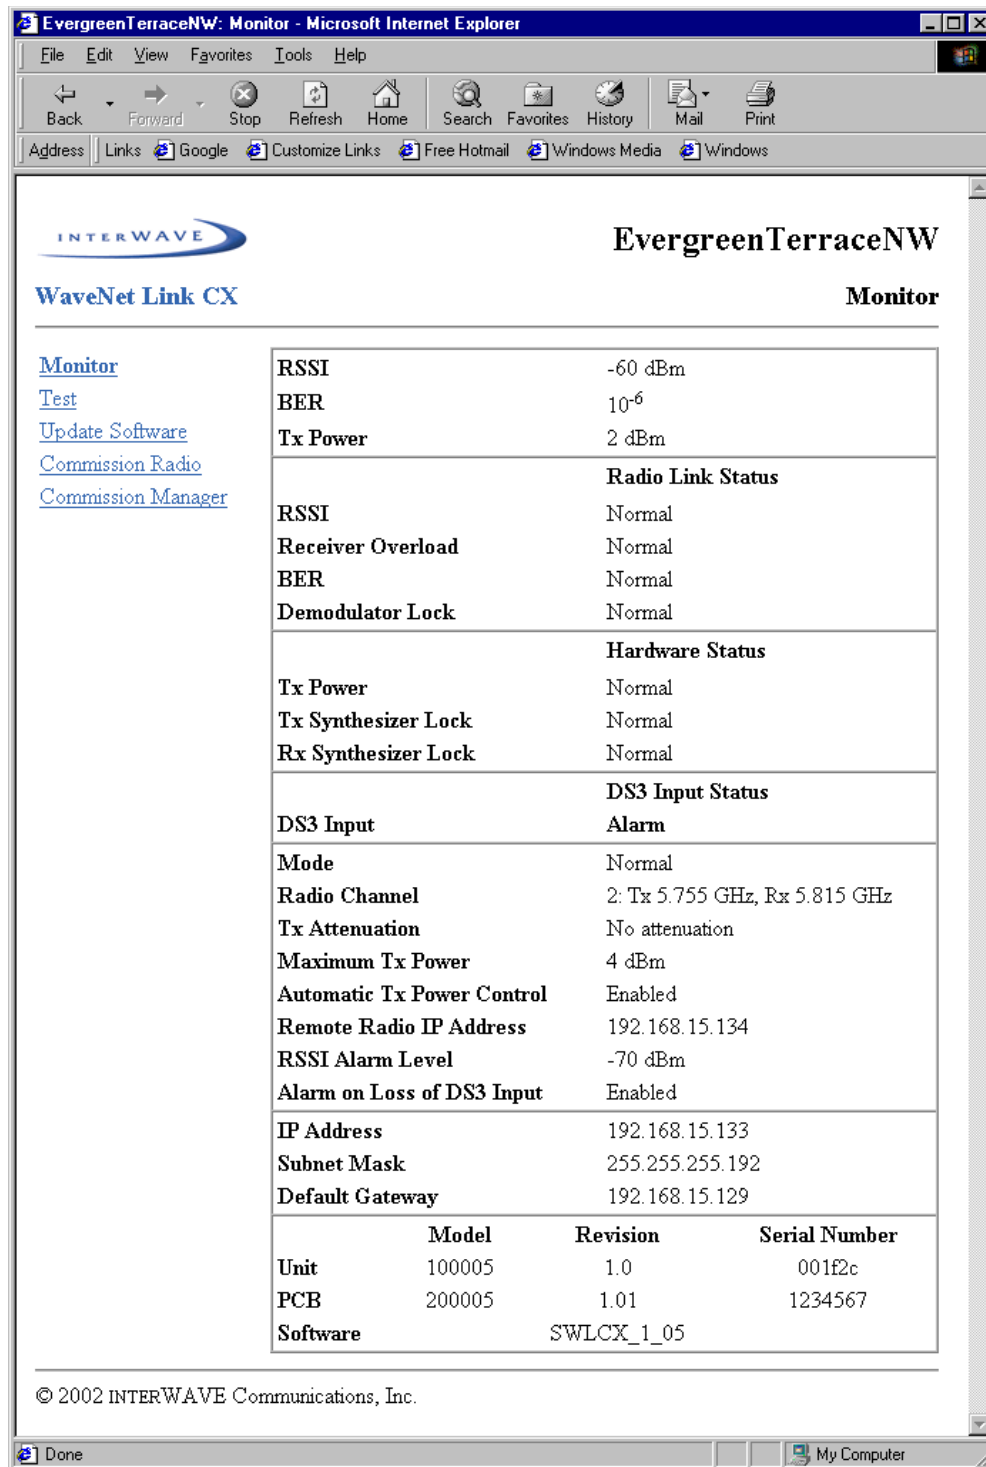

Figure 4-3 Typical 5.8 GHz Link CX Monitor Web Page
- 11 The web browser displays the Monitor Page, similar to the one shown in Figure 4-3. Note that the values shown for each of the parameters will vary, depending on the state of the Link CX.